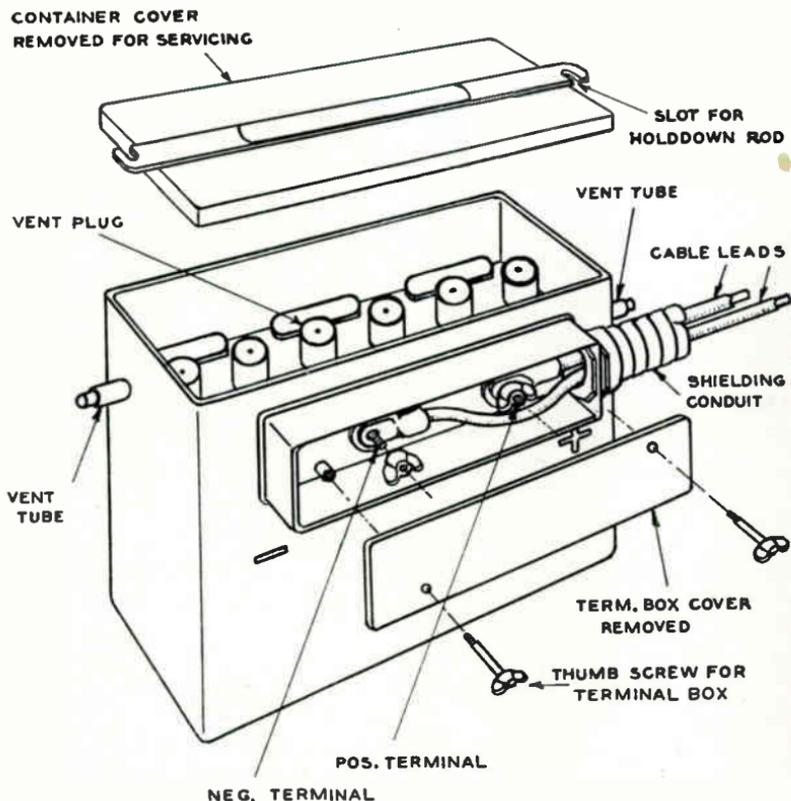

Fig. 6—Illustration of Typical Exide Aircraft Shielded Battery, Non-Spillable Vent Plug Types
- a. Cable connections in shielding conduit are to be made to the positive and negative terminals as shown in Fig. 6. The body of the terminal box is reversible so that the opening in one end for the cables can be placed most conveniently for the approach of the cables.
- e. After seating the cover, the hold-down rod, one at each end, should be located in the cover slot provided, Fig. 6. Make a snug fit—not necessarily the tightest fit. Avoid tightness